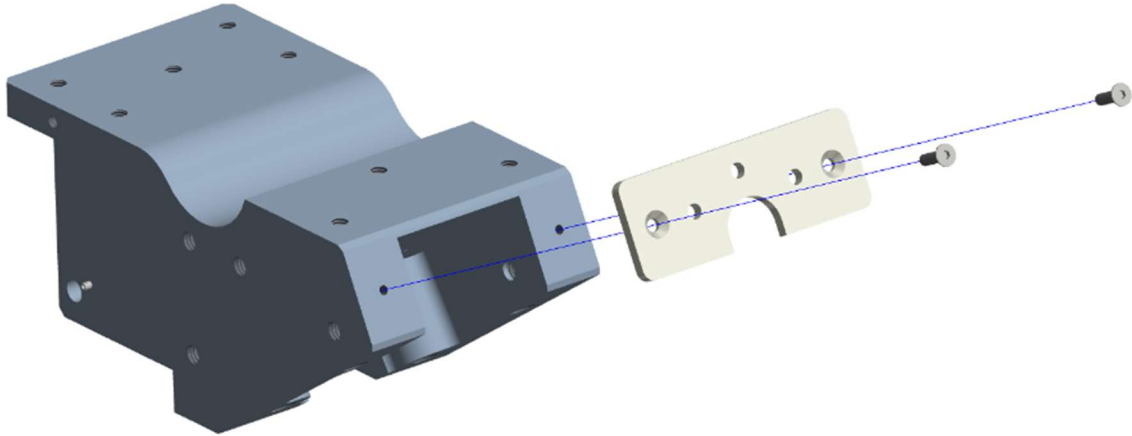

Figure 8-27. Separate the Rear Pelvic Instrumentation Cover (474-4001) from the Center Pelvic Bone (474-4541)
- 8.2.24 Separate the Rear Pelvic Instrumentation Cover (474-4001) from the Center Pelvic Bone (474-4541) by removing two M3 X 0.5 X 10 LG. FHCS (Figure 8-27).
- 8.3.1 Attach the Rear Pelvic Instrumentation Cover (474-4001) to the Center Pelvic Bone (474-4541) using two M3 X 0.5 X 10 LG. FHCS (Figure 8-27).